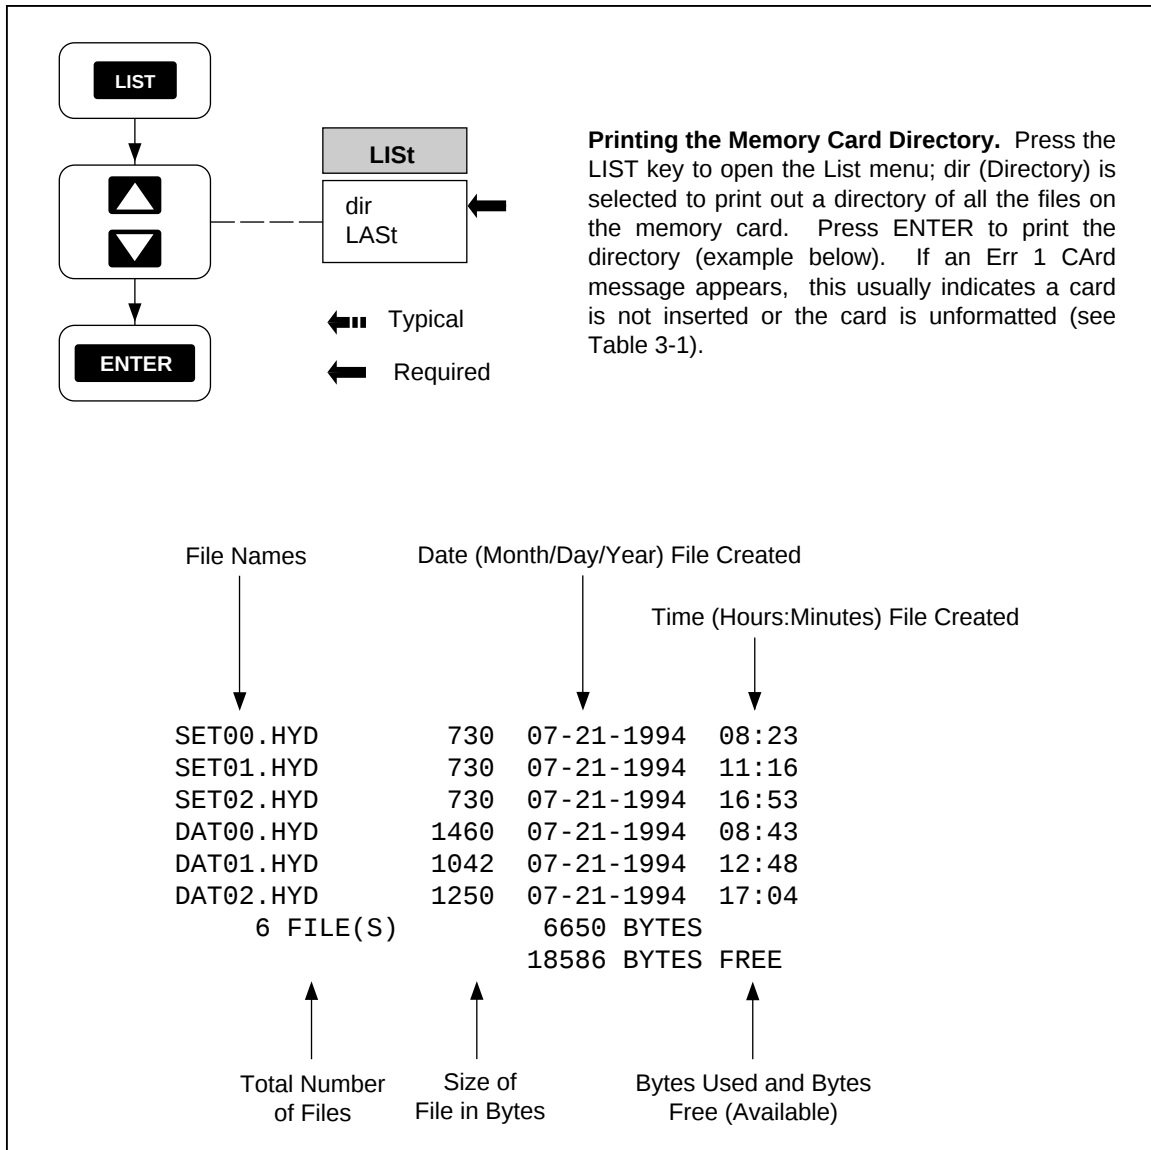

Figure 5-5. Printing the Memory Card Directory
- Printing the Memory Card Directory (Figure 5-5)
Perform the procedure in Figure 5-5 to print the directory of the memory card files. The format is similar to a PC directory for a disk drive and will print any files that exist on the memory card.